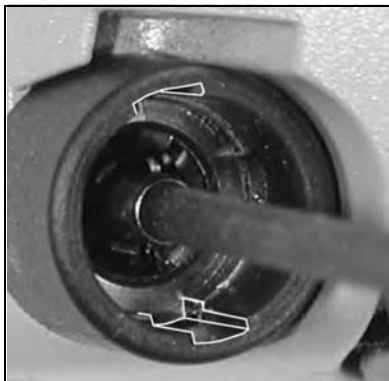

Figure 7-3.
3. Align and insert tool splines into collar slots. See Figure 7-3.